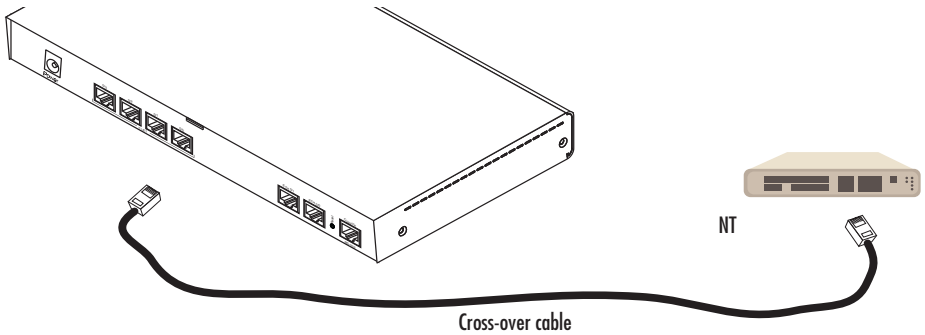

Figure 12. Connecting an E1 PRI port to an NT1
The E1 PRI is usually connected to a PBX or switch—local exchange (LE). Type and pin outs of these devices vary depending on the manufacturer. In most cases, a straight-through RJ-45 to RJ-45 can be used to connect the PRI with a PBX. A cross-over cable is required to connect to an NT device, as illustrated in figure 12.